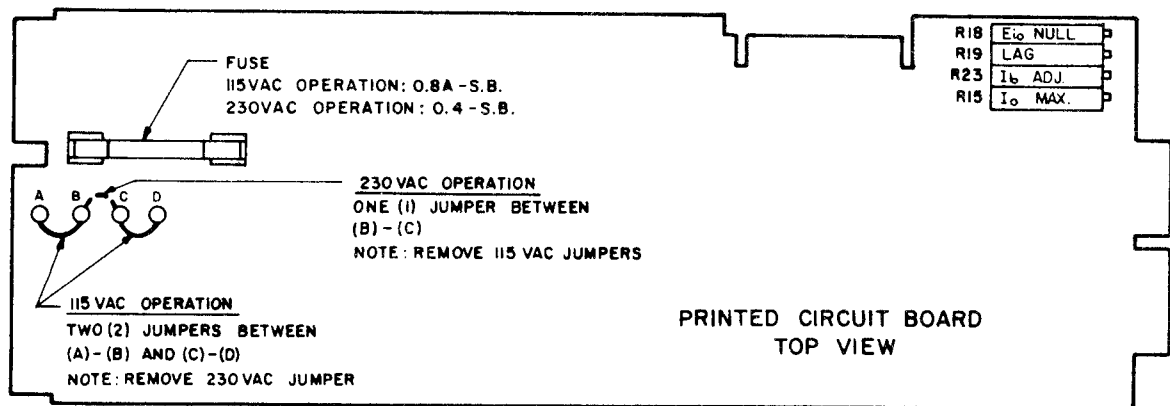
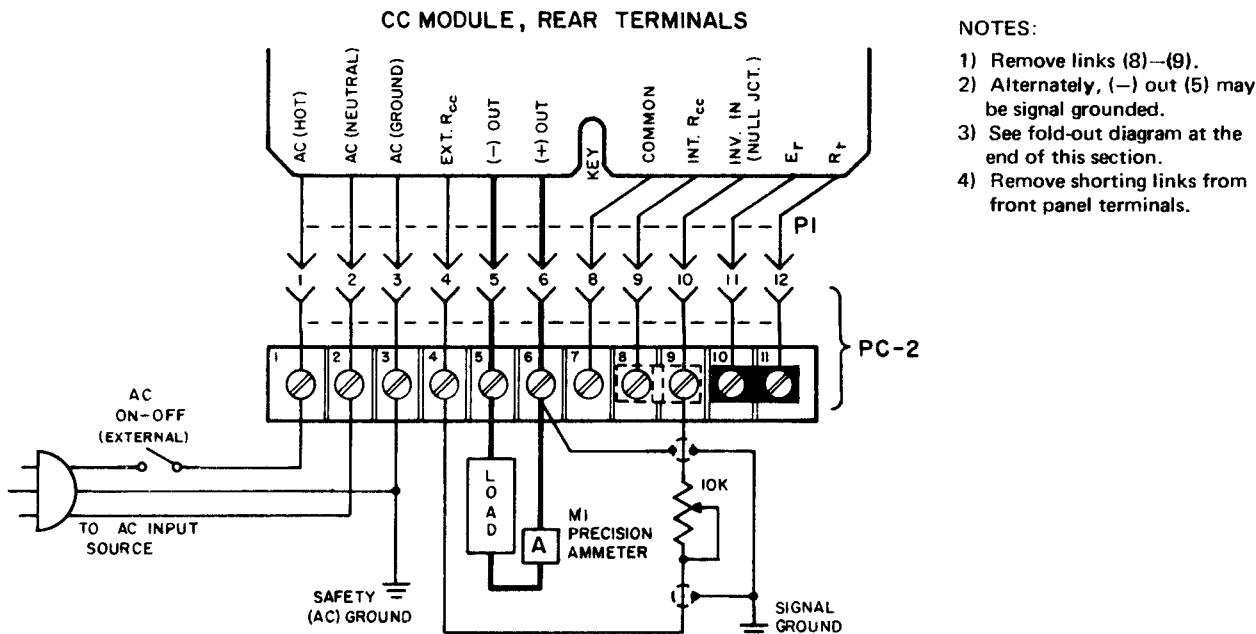

FIG. 2-1 LOCATION OF SOURCE SELECTOR AND INTERNAL ADJUSTMENTS.
FIG. 3-4 PROGRAMMING RATIO ADJUSTMENT FOR REMOTE RESISTANCE CONTROL.
- c) INTERNAL ADJUSTMENTS: Refer to TABLE 2-1 and FIG. 2-1.
2-5 CC Current Stabilizers are normally delivered for operation on a single phase, 105 to 125V a-c input source, 50 to 440 Hz. For operation on 210 to 250V a-c input sources, the jumper connections for the main transformer (T201) must be changed as shown in FIG. 2-1.
- b) Remove bare wire jumpers between terminals (A) and (B) as well as (C) and (D).
- c) Connect bare wire jumper between jumper terminals (B) and (C).
- d) Insert correct fuse value. (See FIG. 2-1.)
- a) With the external programming resistor connected as shown (Refer to FIG. 3-4), and a precision ammeter in series with the load (optional, since the panel ammeter may be used if an accuracy of  $\pm 3\%$  is sufficient), locate the " $I_b$  adj." and " $E_{i0}$  null" controls on the printed circuit board (Refer to FIG. 2-1).